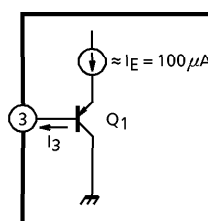

Fig.1
(1) Threshold voltage
Pin③ is coupled to the base of Q_1 (PNP-Tr) as shown Fig.1.
(3) I_3 (In Fig.1)